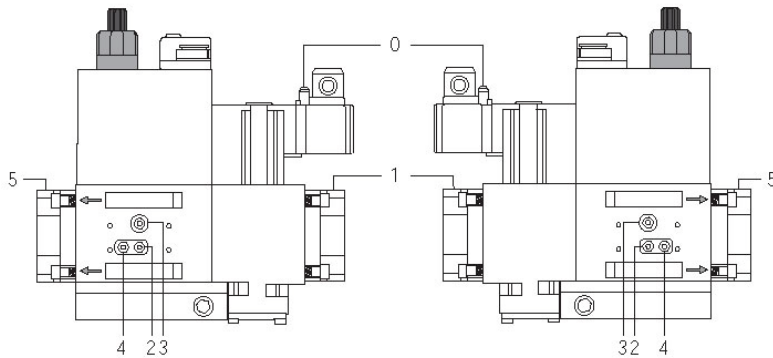
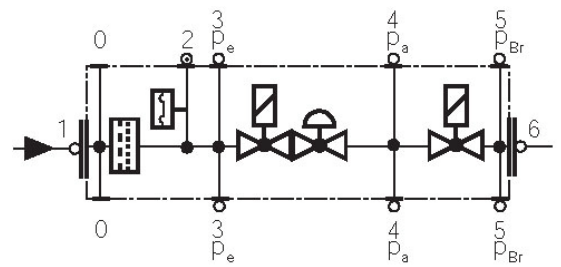

Fig. 34
Fig. 35
- Change the filter if the pressure difference between pressure connection 1 and 2 (Fig. 34-Fig. 35)  $\Delta p > 10$  mbar.
- Change the filter if the pressure difference between pressure connection 1 and 2 (Fig. 34-Fig. 35) is twice as high compared to the last check.